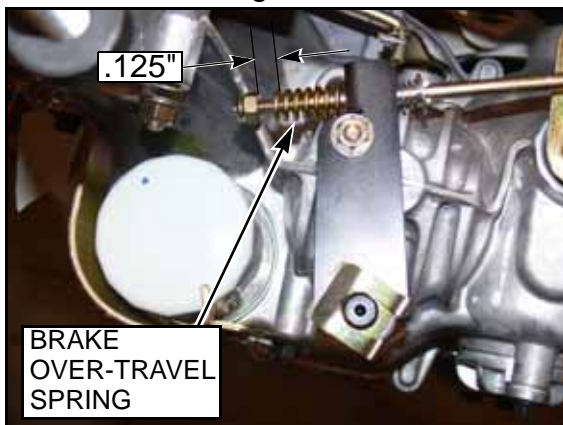
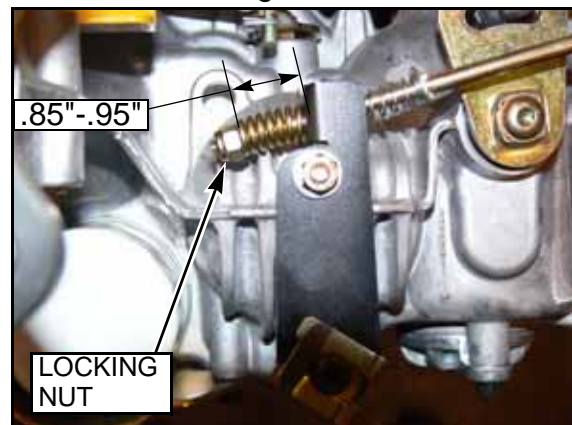
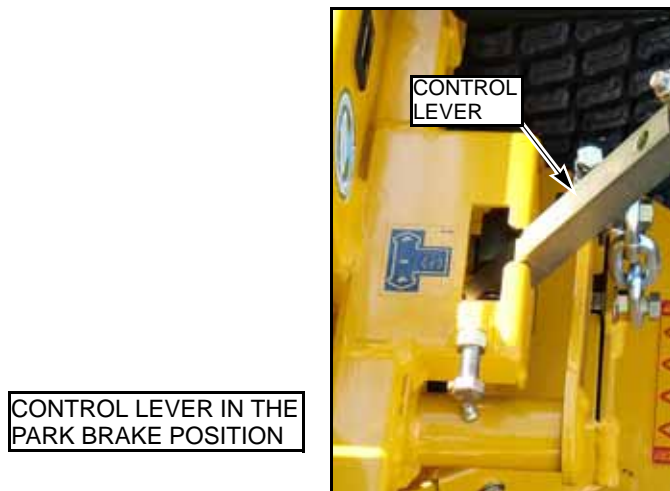

Fig. 9-27
Fig. 9-28
Fig. 9-29
5. Move steering levers into the park brake position. Fig. 9-29 The brake over-travel spring length should measure between $.85$ " and $.95$ ". (Fig. 9-27) Adjust locking nut accordingly (Fig. 9-28).
Neutral is properly adjusted when the control levers are in the park brake position and the ZT 2800 transaxles do not "whine" . Fig. 9-29